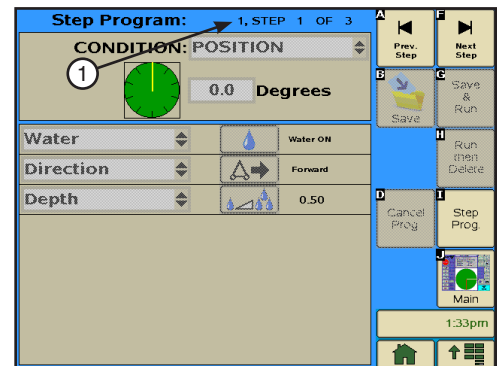

Figure 117-2 1. Step 1 of 3 Indicator
3. Select the **Program Number** field and choose the number of the program you want to review. Refer to Figure 117-2.